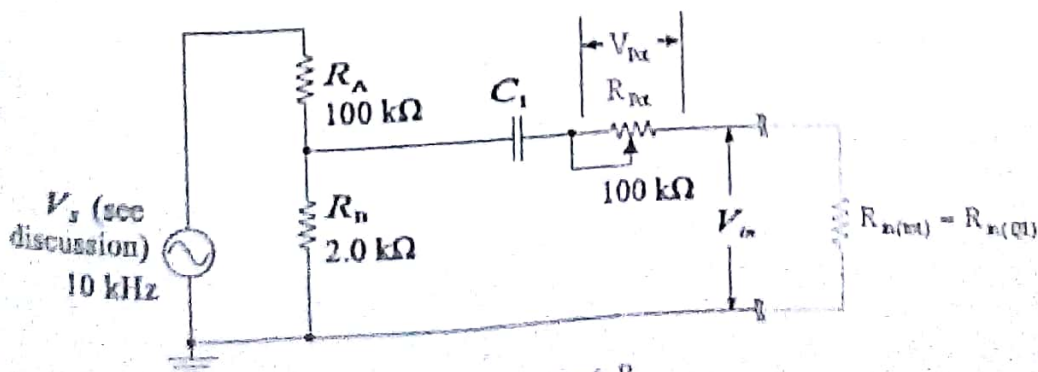

Fig 3: Measurement of $R_{in(tot)}$
6. The measurement of the total input resistance, $R_{in(tot)}$, is done indirectly by using a potentiometer as shown in Figure 3. The output signal (V_{out}) set by V_s to a convenient level with the amplifier operating normally (no clipping or distortion). Using the basic laws of voltage division, you can easily determine the input impedance of this amplifier as follows: